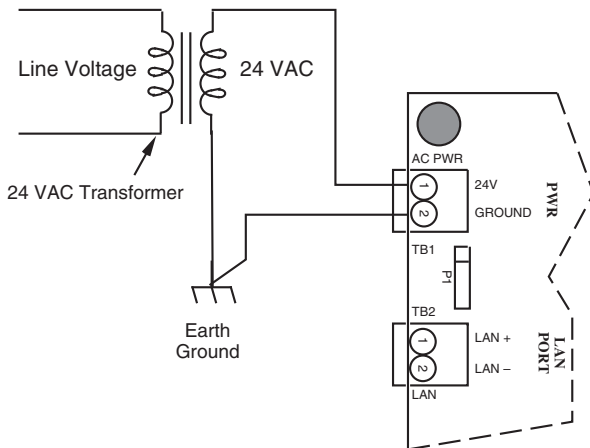

Figure 7. Power Connections
1. Connect the 24 VAC input lead from a separate, isolated 24 VAC transformer to TB1 – 1 (24 VAC, see Figure 7).